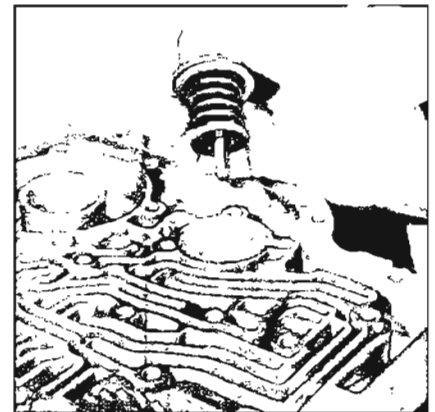

Figure 5-711
1. Install the front servo assembly into the transmission case. Be sure the oil seal ring is started in the case bore. See Figure 5-711.